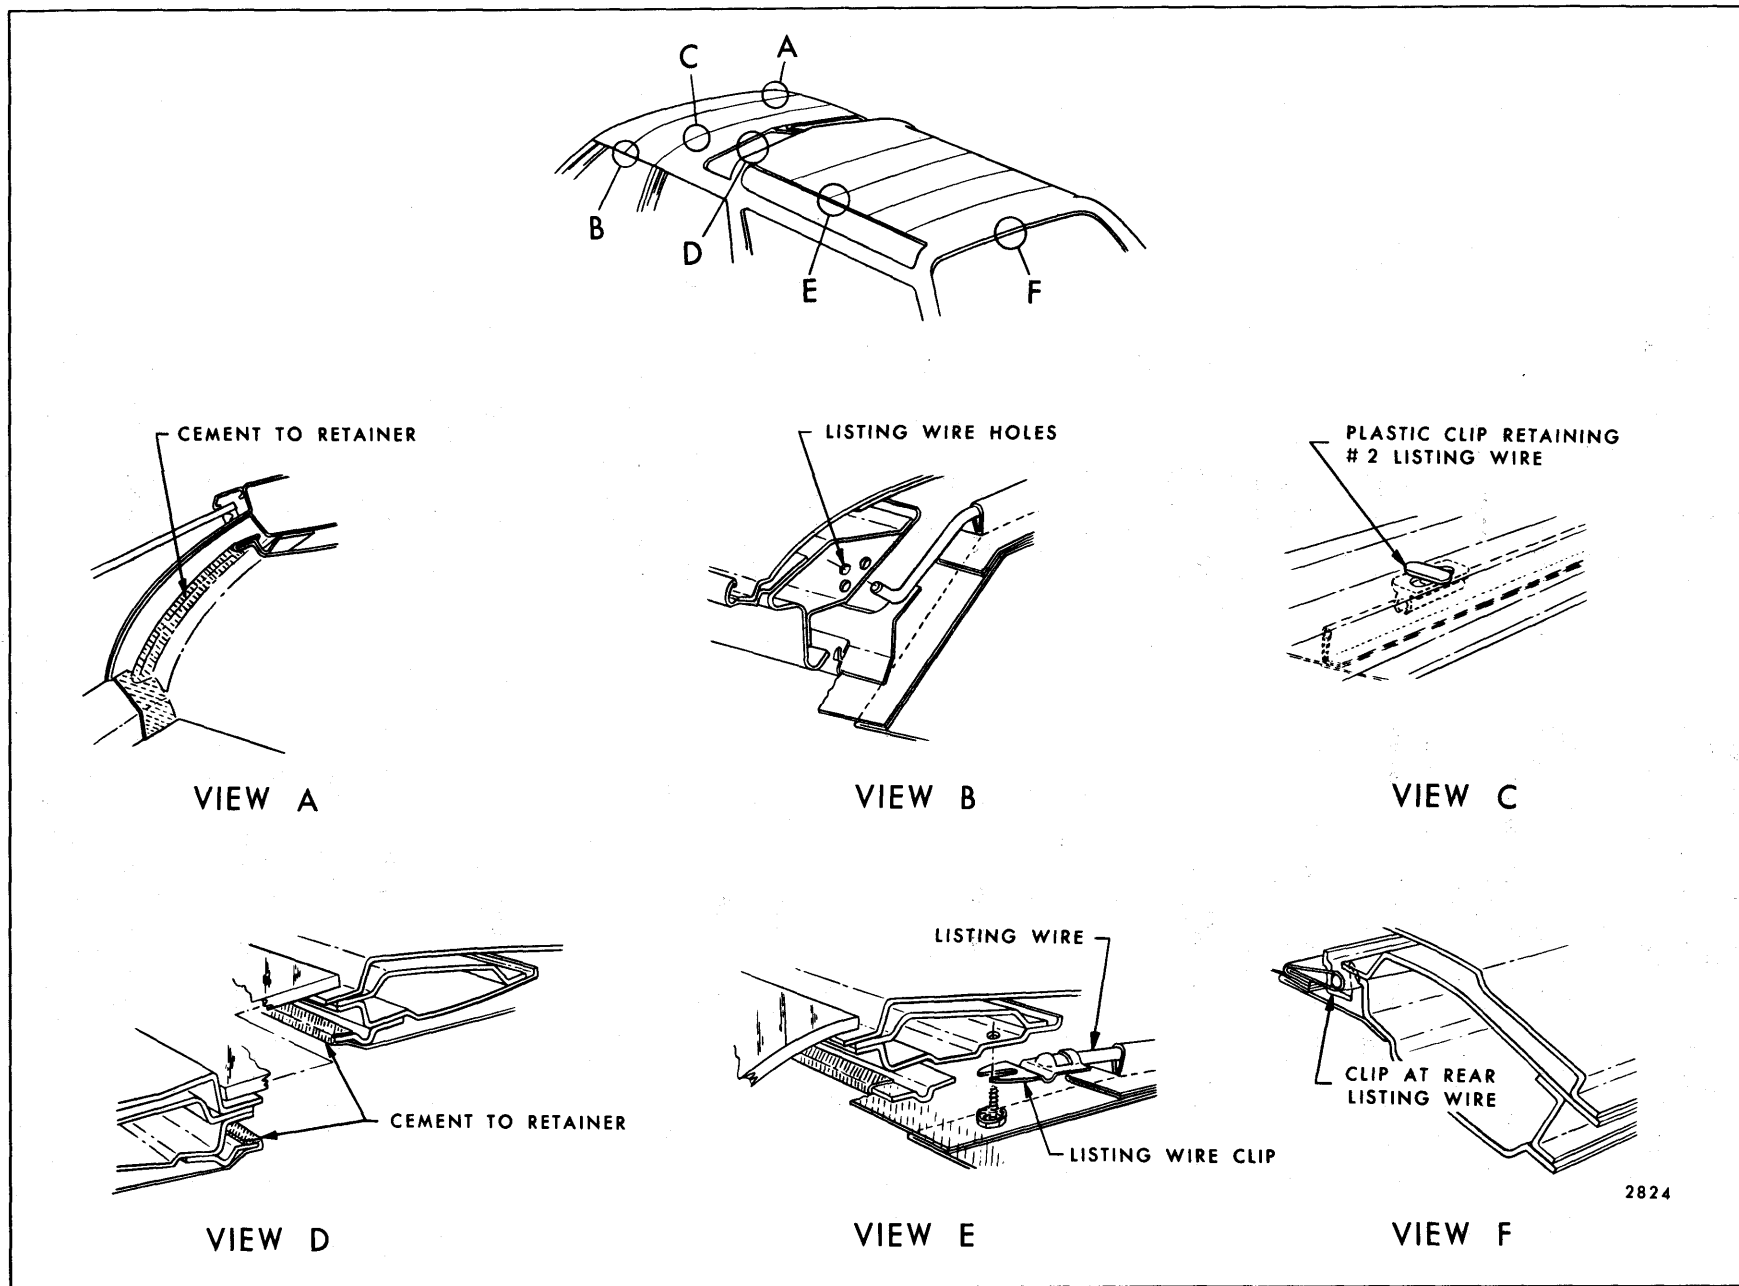

Fig. 11-5—Headlining Installation - "55" and "65" Styles
The front headlining is formed to the contour of the roof panel by concealed listing wires. The ends of the listing wires are installed into holes in the side roof inner rails (View "B", Fig. 11-5) and may be adjusted up and down or fore and aft.
The headlining material is cemented to metal retainers and side roof rail pinchweld flanges (View "A", Fig. 11-5). Escutcheons, moldings, and finishing lace cover the edges and assist in holding the material in place.
The rear headlining is formed to the contour of the roof panel by concealed listing wires. The ends of the listing wires are installed into clips which are secured to the side roof inner rails by screws (View "E", Fig. 11-5). The edges of the material are cemented to the retainer flanges. Finishing lace and moldings cover the edges and assist in holding the material in place.
4. Disengage No. 2 listing wire from plastic clips on structural bow and remove listing wires from inner rails. Gather or roll headlining with listing wires on outside to keep headlining clean and remove old headlining assembly. (View "C", Fig. 11-5).
4. Lift headlining into body, install listing wires into holes in side roof rails and snap No. 2 listing wire into plastic clips on structural bow (View "B & C", Fig. 11-5).
4. Starting at front remove listing wires from roof inner rails (View "E", Fig. 11-5).
5. At rear listing wire, bend down tabs securing wire to bow (View "F", Fig. 11-5).
listing wire over metal tabs at rear bow and bend down tabs (View "F", Fig. 11-5).
5. Working forward install remainder of listing wires into clips and secure clips to roof (View "E", Fig. 11-5).